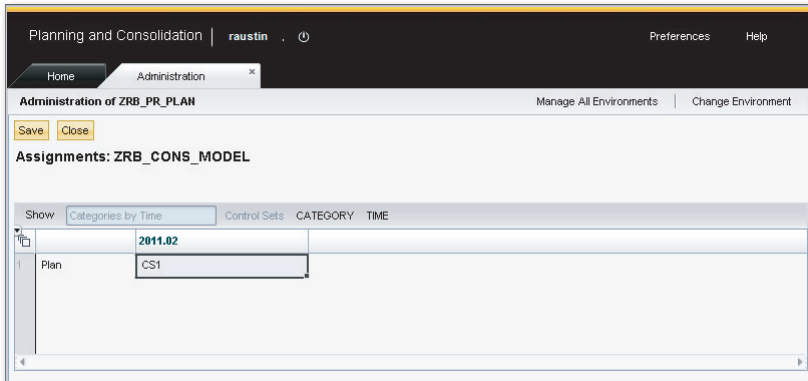

Figure 9.31 Configuring and Running Controls—Part J
10. In the assignments interface, click on the **EDIT** menu button, and select the **TIME** and **CATEGORY** dimension members. For a time and category intersection, select a category set (Figure 9.31). You have assigned a control set to a time and category selection, so you're now ready to execute the control.